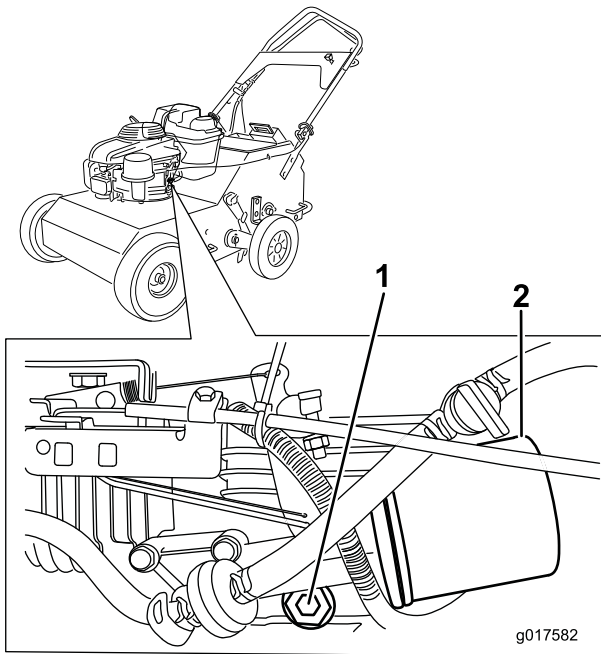

Figure 22
6. Remove the drain plug (Figure 22) and tip the machine so the oil flows to the pan.
2. Place a rag under the oil filter (Figure 22) to catch any oil that may leak out as you remove the filter.